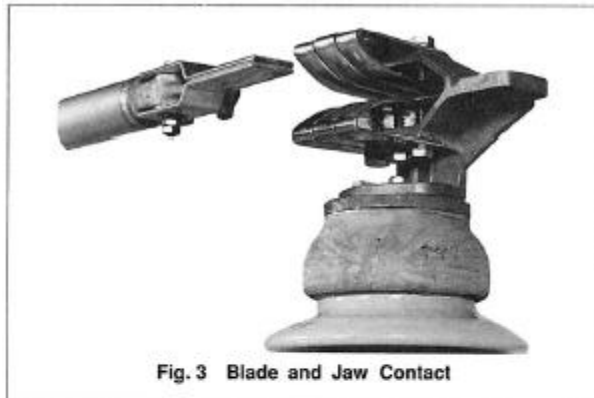
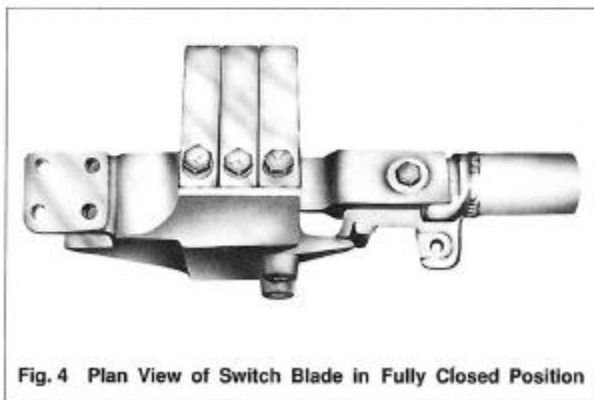

Fig. 3 Blade and Jaw Contact
Fig. 4 Plan View of Switch Blade in Fully Closed Position
CAUTION: When uncrating switches having blade counterbalances (Fig. 3), open the switch blade to relieve the pressure of the counter balance before removing the live parts from the base.
After aligning the insulator stacks, close the switch by hand to see if blade contact (A) properly engages jaw contact (B), Fig. 3. The blade contact should enter the jaw contact centrally, and engage deep enough so that the blade stop either touches or is within 1/2" of touching the jaw stop, Fig. 4. It may be necessary to re-adjust the insulator stacks to achieve proper contact engagement.